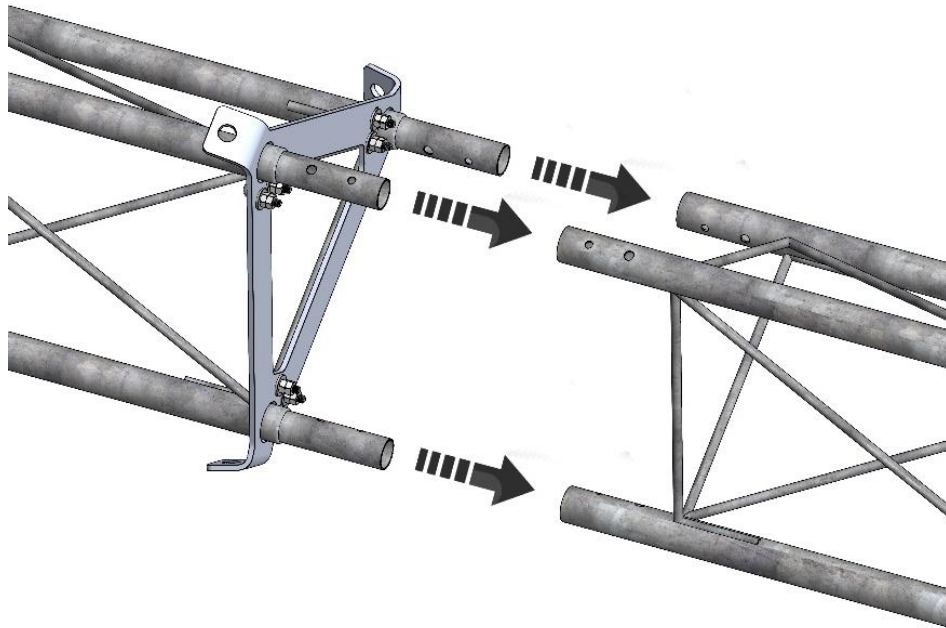

Figure 40 40' Kuva Tower assembly
6. Connect the (2) 20' Kuva Tower sections to one another with the Tower Guy Attachment Plate in between both sections using included ratchet straps as per Figure 40.